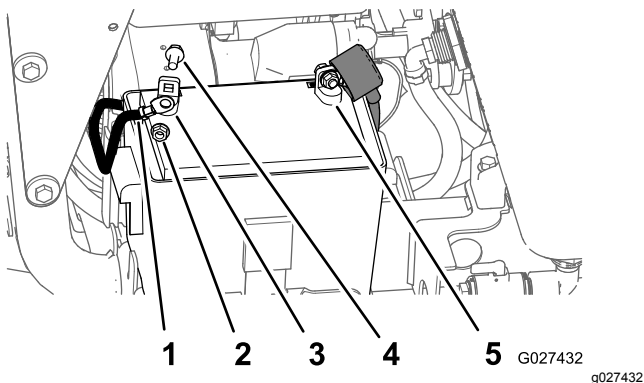

Figure 89
3. Remove the hex-flanged bolt and flanged nut from the negative battery cable and negative (-) battery terminal, and remove the cable from the battery (Figure 89).
- Slide the red-terminal cover off the positive battery terminal (Figure 89).
- Remove the hex-flanged bolt and flanged nut from the positive (red) battery cable and the positive (+) battery terminal, and remove the cable from the battery (Figure 89).
- Install the positive (red) battery cable to positive (+) battery terminal with a flanged bolt and flanged nut (Figure 89).
- Install the negative battery cable to the negative (-) battery terminal with a flanged bolt and flanged nut (Figure 89).